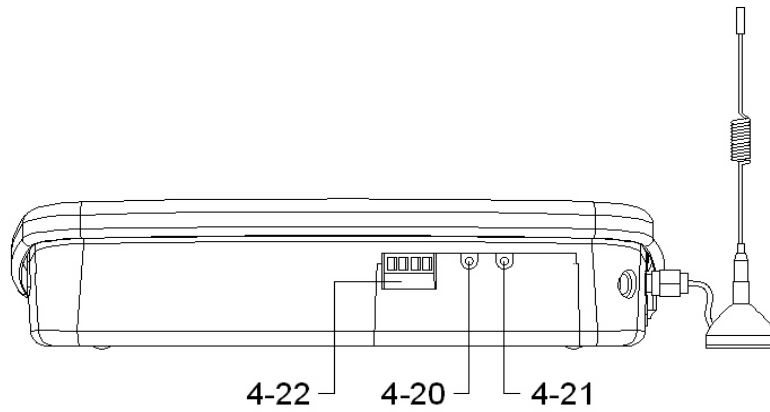

Fig. 3
- 8) Connect the Wire Buzzer to the " Wire Terminals " ( 4-22, Fig. 3 )